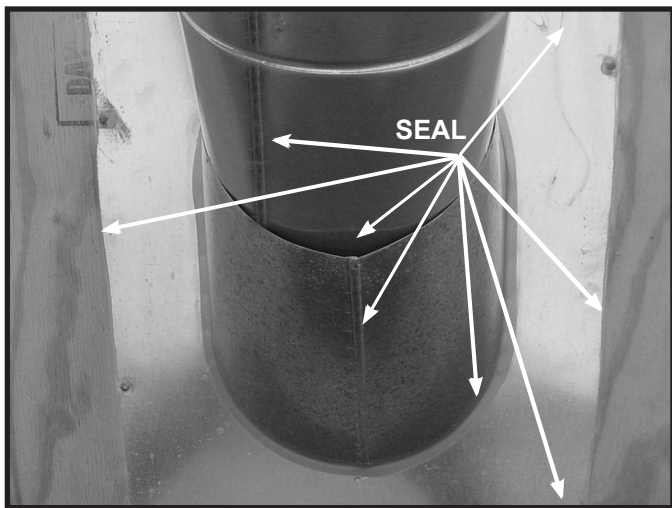

Figure 7.9
- Slide the roof flashing over the pipe sections extending through the roof as shown in Figure 7.9.
- Seal the perimeter of the flashing where it contacts the roof surface. See Figure 7.9.